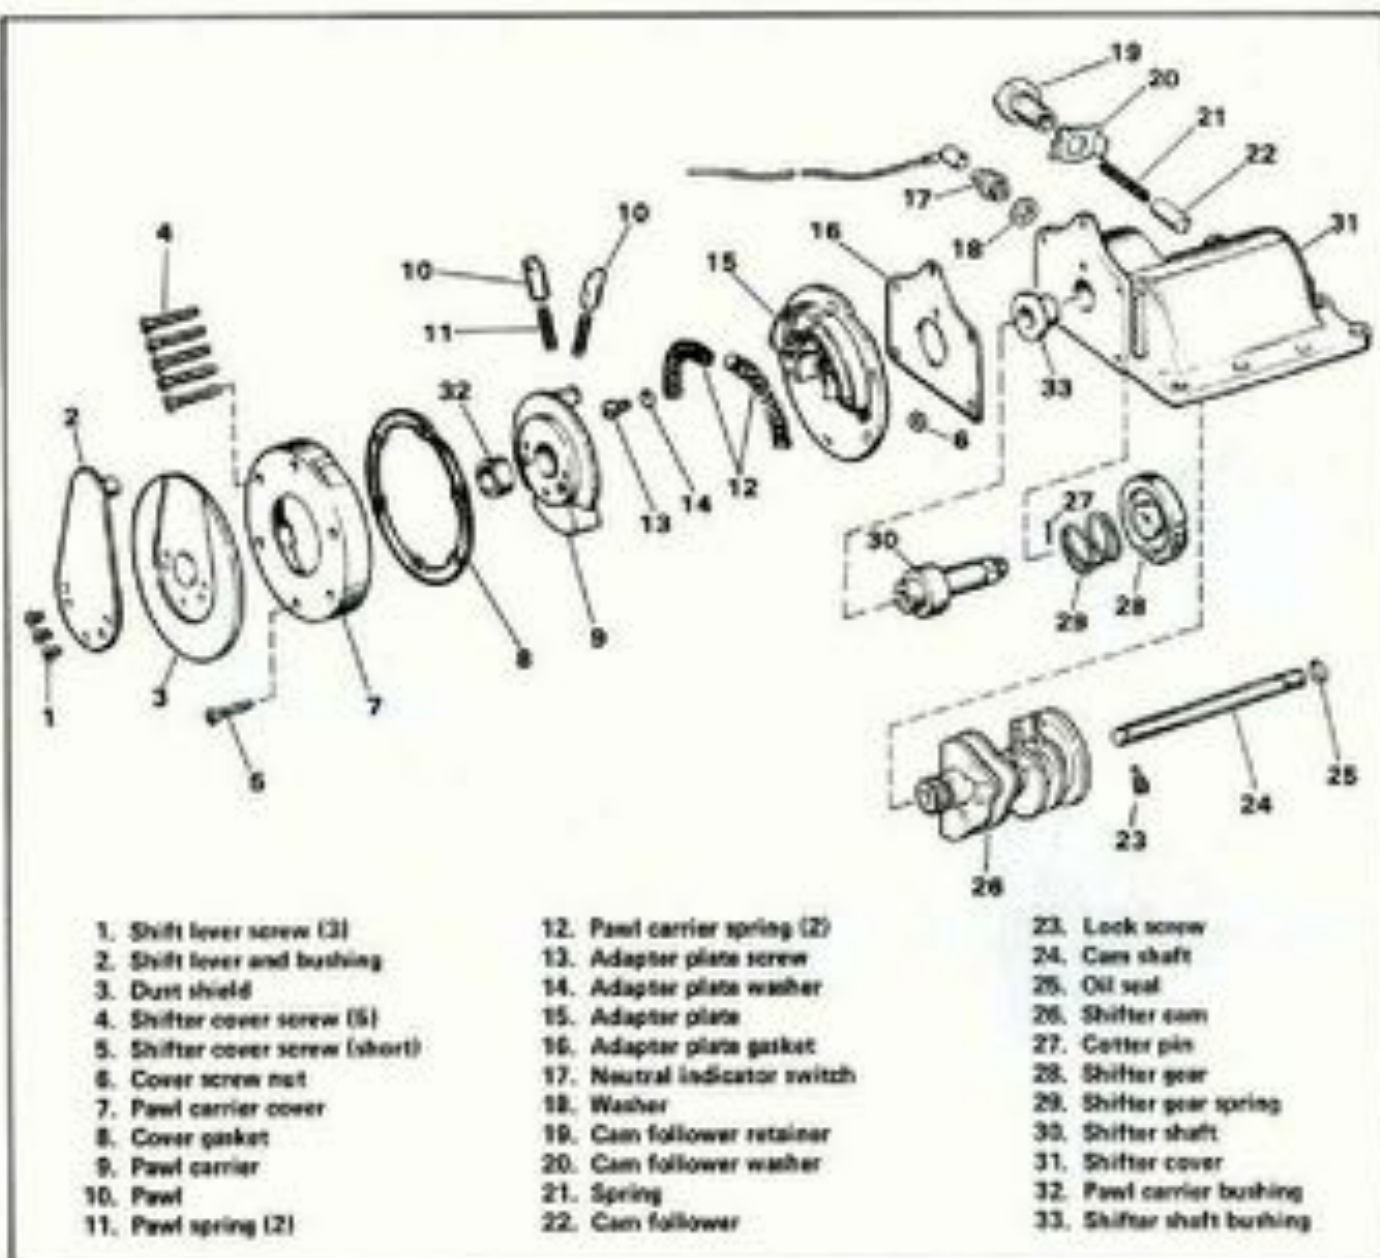

Figure 7-9. Drum Shifter — Exploded View
5. See Figure 7-9. Remove the pawl carrier (9), pawls (10) and springs (11, 12).
6. See Figure 7-9. Remove the adapter plate screw (13), washer (14) and adapter plate (15).
#### Cleaning, Inspection and Repair (Figure 7-9)
1. See Figure 7-10. Place the shifter gear and spring (28, 29, Figure 7-9) into the cover. Install the shifter shaft into the case and through the spring and gear. Align the timing mark on the gear with the first slot on the shifter shaft as shown.
3. See Figure 7-9. The shifter cam (26) has one tooth on its gear that is shorter than the rest.
- See Figure 7-9. Install the gasket (16) and adapter plate (15). Coat the screw (13) threads with Loctite LOCK N' SEAL. Install the washer (14) and screw (13) but do not tighten the screw yet.
- See Figure 7-13. The shifter plate will move slightly. Adjust the shifter plate so it aligns with the first notch as shown. Tighten the screw (13, Figure 7-9) to 6-9 ft-lbs torque.
- See Figure 7-9. Apply a multi-purpose grease to the springs (12) and install them on the adapter plate.
- Grease the end of shifter shaft and lubricate the pawls (10) with light oil. Install the pawl springs (11) and pawls into the pawl carrier (9). Make sure grooves in pawls register on pawl carrier pins. Install the pawl carrier on the shifter shaft so that the tab is positioned between the two springs (12).